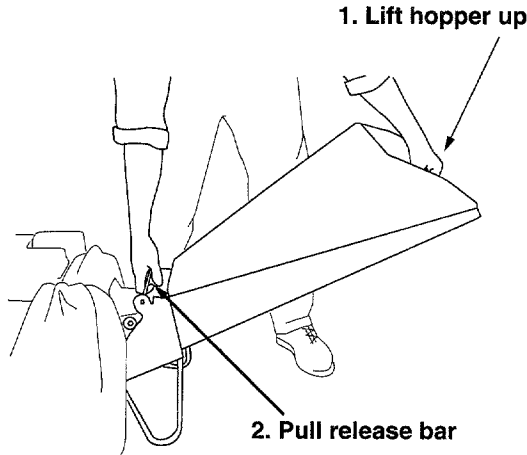

Figure 5
- To *lower* the hopper, hold the hopper by the hand-hold and pull the release bar. The hopper should drop down. See figure 5.
- To lower the hopper assembly, use one hand to grasp the hand-hold at the top of the hopper assembly and lift slightly. See figure 5.
- Pull up on the release bar, and lower the hopper assembly to the ground. Release the bar. See figure 5.